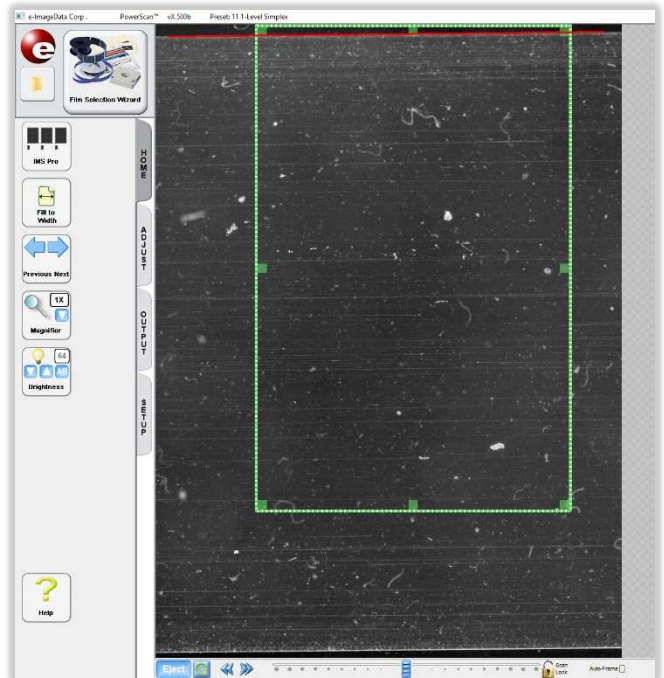

Figure 102
8. If the film is not perfectly horizontal, click the *Calibrate* button. The cursor changes to a +. On the top edge of the film, click once on the left and once on the right. The corresponding red line will be used to straighten the sensor. *Figure 102*